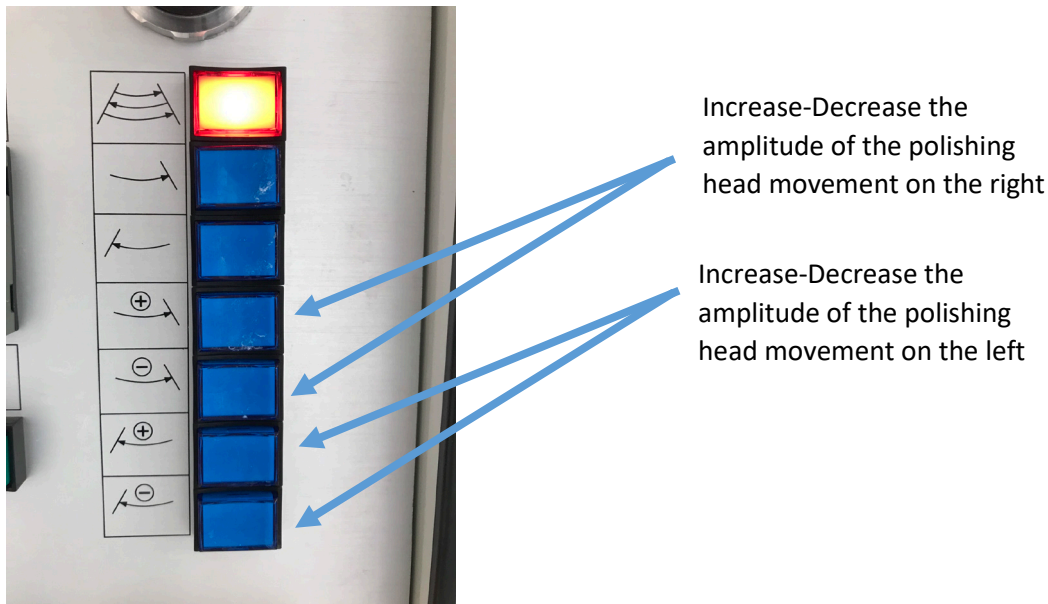

Fig. 12 : Main Panel : Control of polishing head movements amplitude
- The amplitude of the polishing head displacements can be set with the blue square buttons on the right (Fig. 12). The standard amplitude is chosen so as the polishing head goes almost until the extremity of the pad on the left and almost to the center of the pad. **Usually, it is not necessary to use these buttons except if the previous user has modified the amplitude settings.**